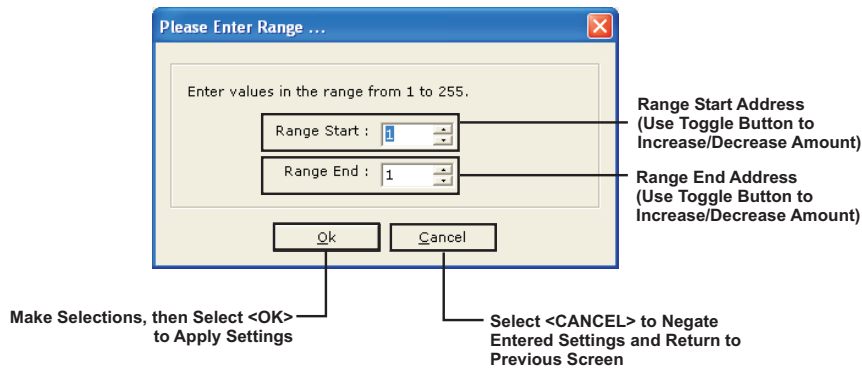

Figure 2-48. Device Range Definition for MACROs Screen
2. Select a device by either double-clicking on the device name or by highlighting the device name, and selecting **<OK>**. Figure 2-48 displays.